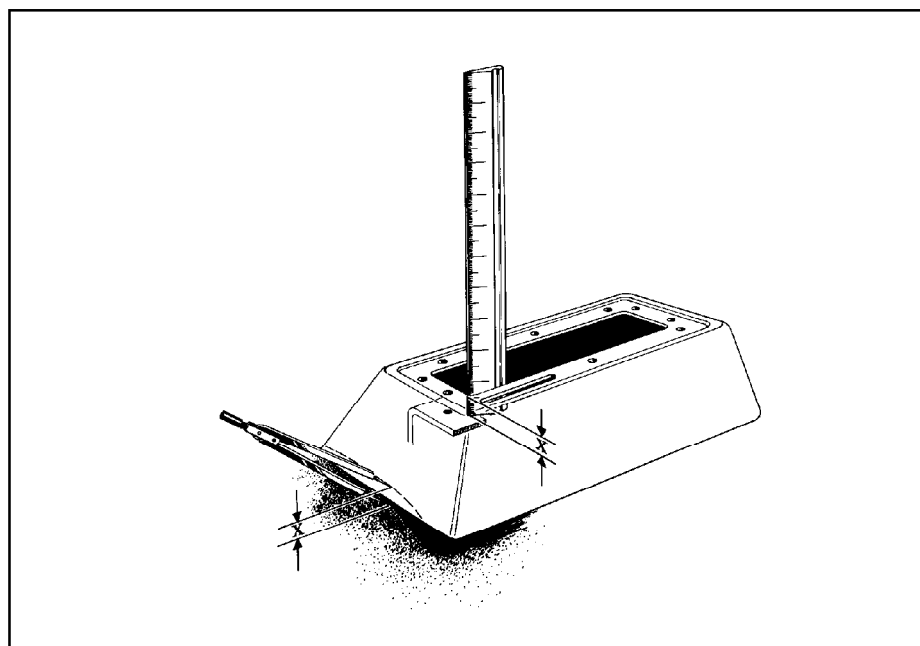

Figure 8
STEP 23. Remove the two transmission oil pan bolts directly below the shift lever. Install the cable bracket in position, (**See Figure 8**), with two spacers between the pan and the bracket. (If your transmission is equipped with a cast aluminum oil pan these spacers can be omitted.) Install the two 5/16-18 x 1.00" pan bolts supplied and tighten to 12-13 lbs.ft. Do not overtighten as this can damage the pan gasket.
STEP 28. Place the tower over the shifter mechanism until the bottom edge of the tower touches the floor. Put the shifter cover and the indicator cable through the opening in the top of the tower. Hold the tower level to the shifter with the bottom of the tower touching the highest surface on the floor it will come into contact with (**See Figure 8**). Use a ruler to measure the distance X from the underside of the tower to the tower mounting brackets on the shifter mechanism.
STEP 29. Set a pair of dividers at the distance X, measured in **Step 28**. Hold the tower level to the shifter mechanism with the bottom of the tower touching the highest surface on the floor it will come into contact with. Holding the tower in position, place one leg of the divider against the floor while the other touches the tower (**See Figure 8**). Using the dividers, scribe a line around the tower that follows the contour of the